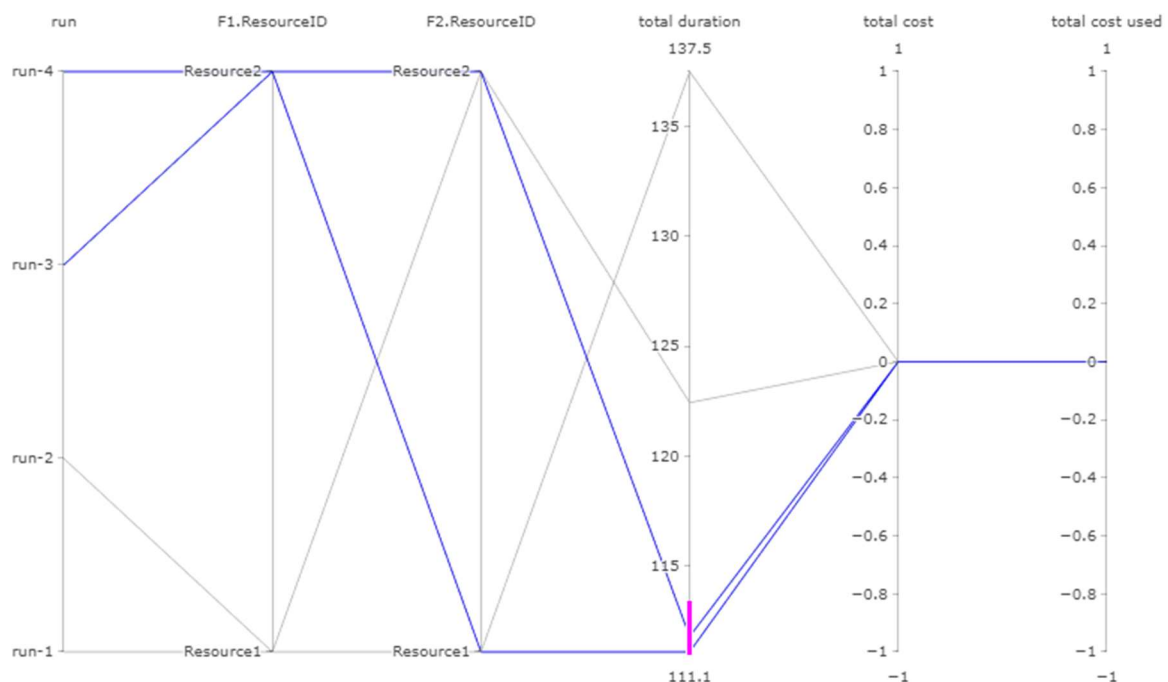

Figure 27 Visualization of results, no costs specified
- Button **≈** shows a visualization of the runs; a small example is shown in Figure 27. In this case, no costs are specified, meaning costs are 0 by default.